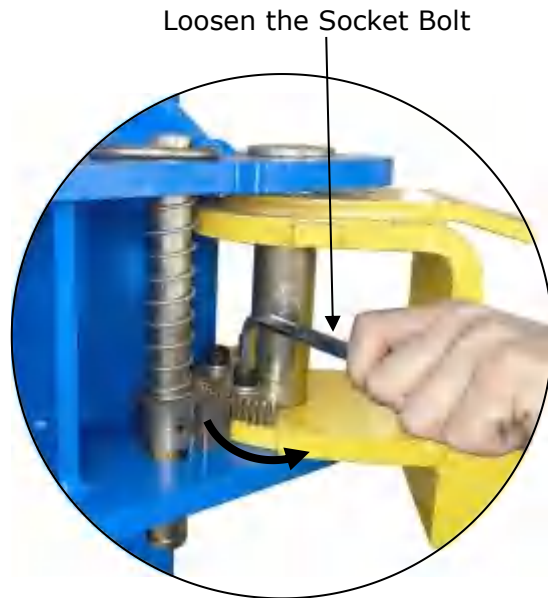

Fig. 45
2. Lowering the carriages down to the lowest position, then use the 10[#] socket head wrench to loosen the socket bolt (**See Fig. 45**).